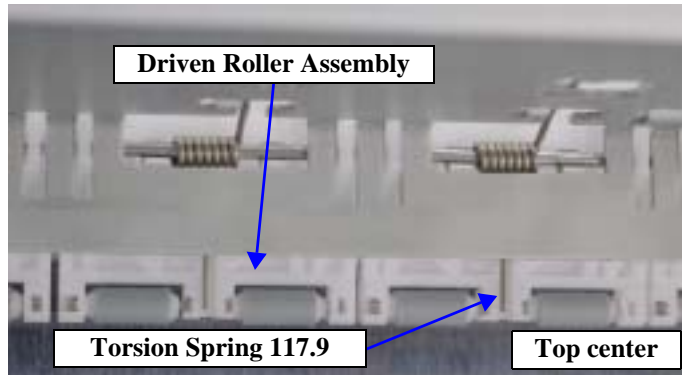

Figure 4-90. Torsion Spring 117.9 Setting Position
- When reinstalling the Torsion Springs 117.9, make sure that the Torsion Springs 117.9 are placed correctly in the spring setting positions of the Driven Roller Assembly (printer front). Refer to Figure 4-90, "Torsion Spring 117.9 Setting Position".